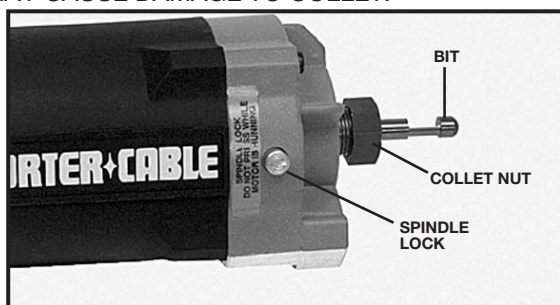

Fig. 2
3. Depress spindle lock (Fig. 2) and rotate collet nut clockwise by hand until lock engages hole in motor spindle.